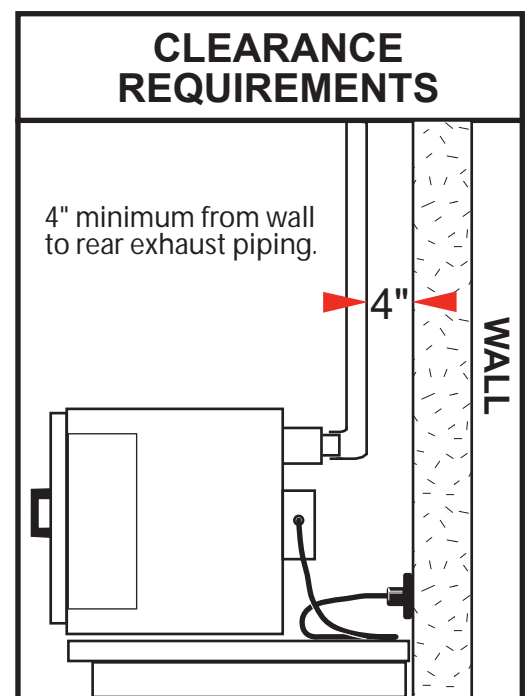

FIG. 6
- A minimum of 4 inches of clearance should be maintained between the connected pipe and any building surface or material. (FIG. 6)